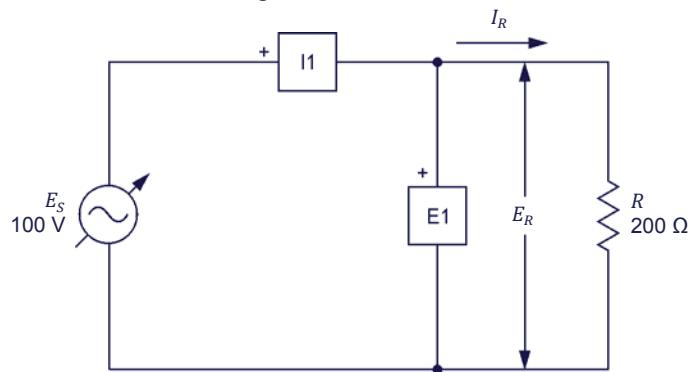

Figure 3-5. AC circuit containing a resistor and set up for power measurements.
6. Set up the circuit shown in Figure 3-5.
8. Calculate the active power  $P$  dissipated in the resistor of the circuit shown in Figure 3-5.